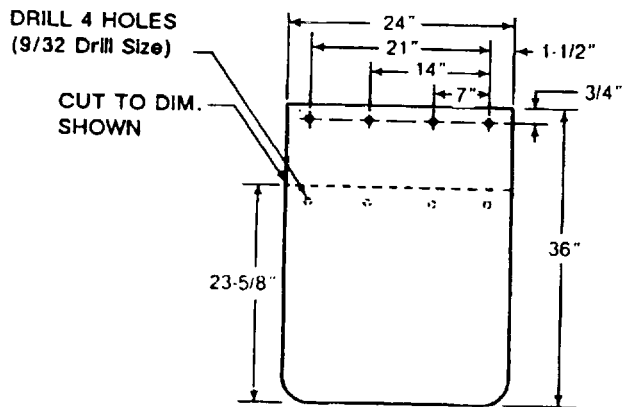

Figure 4-64. Mudflap Modification
4-57. Brackets, Splash plates, and Mudflaps, Fig. 4-64.
(1) Position front splash plate and fasten to frame with three bolts and nuts.
(2) New mudflaps are stocked in one size only. Cut and drill the mudflaps using the dimensions shown in figure 4-64.
(3) Put mudflaps in position, place bracket on top side of mudflaps, and fasten to rear bumper with four capscrews, washers, and nuts.